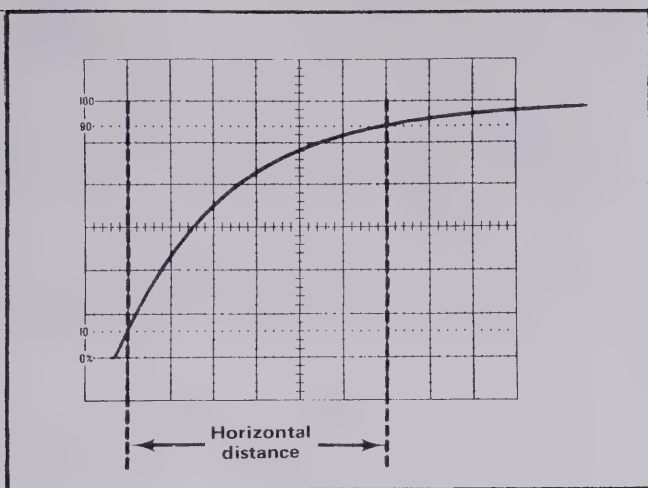

Fig. 5. Measuring risetime.
7. Adjust the horizontal POSITION control to move the 10% point of the waveform to the second vertical line of the graticule (see Fig. 5).
Example. Assume that the horizontal distance between the 10% and 90% points is six divisions (see Fig. 5) and the TIME/DIV switch is set to 1 μ s.